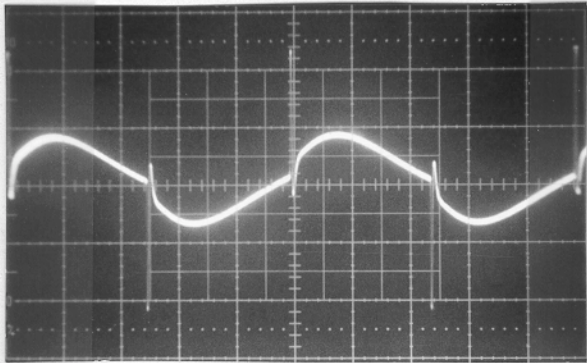

Fig. 13. Contour to 10.
- 2) Increase contour to 10- compare to Fig. 13. Turn to 0.